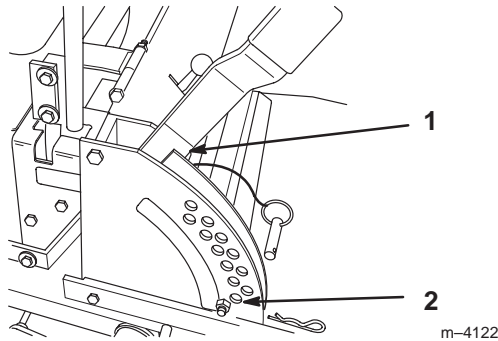
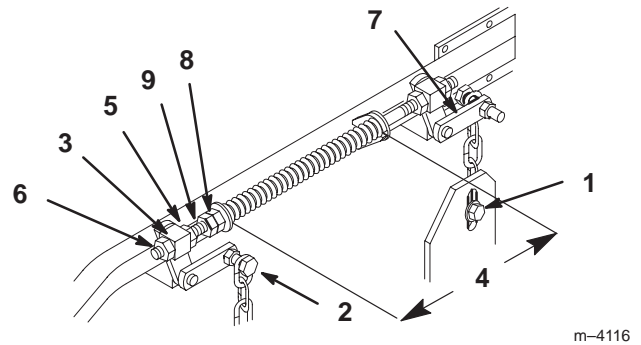

Figure 50
Figure 51
4. Raise the deck to the transport position (Fig. 50). Take force off of the two large deck lift springs by loosening the jam nut and front spring nut, in front of each spring, as far as possible (Fig. 51).
- Place 2 thick blocks (1-1/4 in. [35 mm]) under the rear left and right lower edge of the mower. Place 1 block (1-3/8 in. [44 mm]) under the front center lower edge of the mower, not under the anti-scalp roller brackets. Lower the mower to the 1-1/2 in. (38 mm) height-of-cut position (Fig. 50).
- Loosen the bottom chain bolt in the slot at the rear of the deck. Repeat for the opposite side (Fig. 51).
- Loosen the front and rear locking nut on either side of the front swivel. Loosen until the front chains are loose and the deck is supported by blocks. Repeat for the opposite side. (Fig. 51).
- When the hardware is loosened, the remaining tension in the large support springs will tend to rotate the deck lift handle up, out of the 1-1/2 in. (38 mm) position. Press down on the rear deck support arm to firmly return the deck lift handle to the 1-1/2 in. (38 mm) position (Fig. 51).
- While continuing to press down on the rear deck support arm, take the slack out of the rear chain and tighten the hardware at the bottom (Fig. 51). Downward pressure may now be released. Repeat for the opposite side.
- Raise the deck lift lever to the transport position (Fig. 50).
- Adjust the compression springs by turning the front spring nuts so that the distance between the two large washers is 10-1/4 in. (260 mm); then tighten the jam nut (Fig. 51).